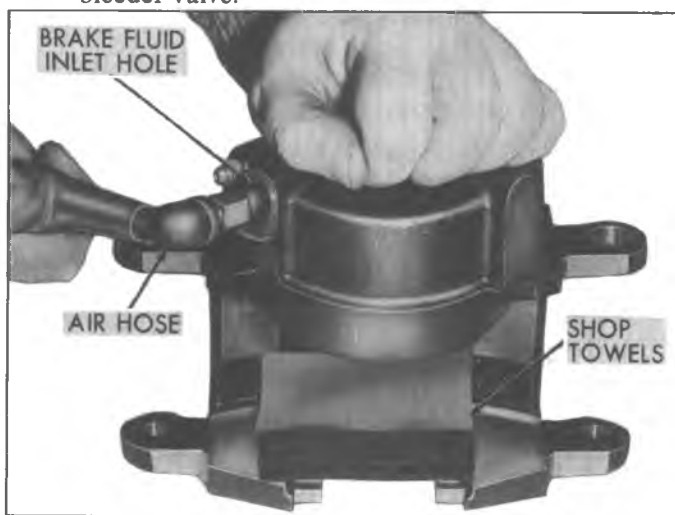

Fig. 60--Removing Piston From Caliper
- Using clean shop towels, pad the interior of the caliper and remove the piston by directing compressed air into the caliper inlet hole (fig. 60).